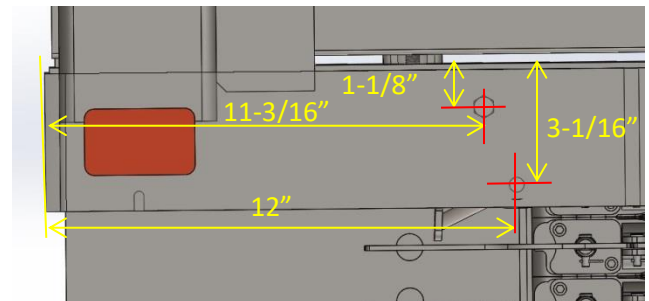

Figure 2
2. Drill (2) two $\frac{13}{32}$ " holes in the bed rail, one 12" rearward of the front of the rub rail and $\frac{3-1}{16}$ " down from the top of the floor and the other $\frac{11-3}{16}$ " rearward of the front of the rub rail and $\frac{1-1}{8}$ " down from the top of the floor. (Rub rail not shown) **Figure 2**